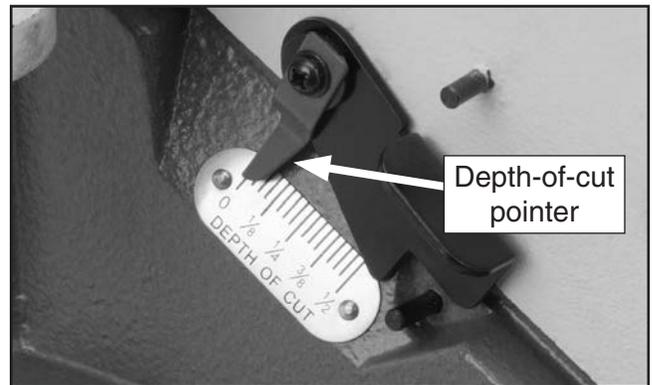

Figure 71. Depth-of-cut pointer adjusted to "0" position.
4. Using a screwdriver, adjust the scale pointer exactly to "0" (**Figure 71**).